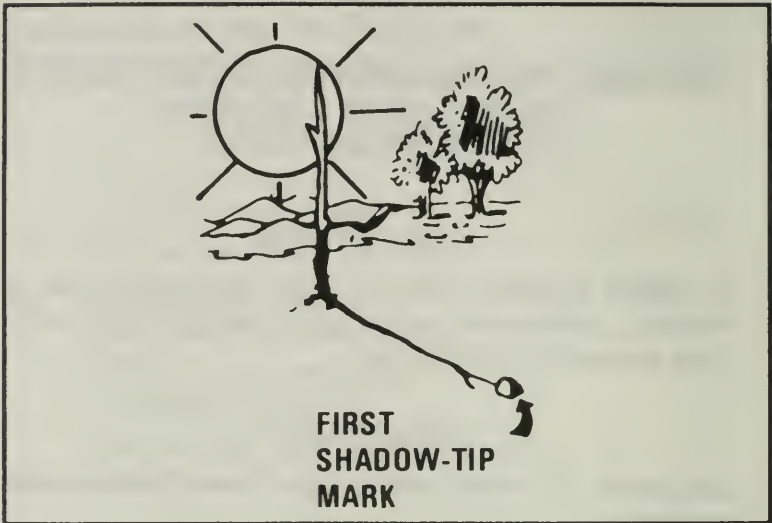

Figure 39. First shadow tip mark.
a. Place a stick or branch into the ground vertically at a fairly level spot where the sun will cast a distinct shadow. Mark the shadow with a stone, twig, or other means (Figure 39).